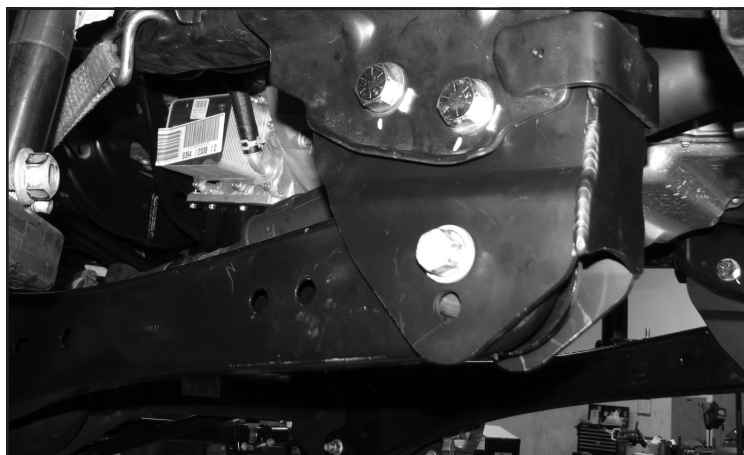

FIGURE 16 - STEP 17
17. Reinstall the radius arms into the new drop down bracket using the factory hardware. Attach to the axle first then to the new drop bracket using the upper most hole. Torque to 200 ft-lbs. **SEE FIGURE 16**